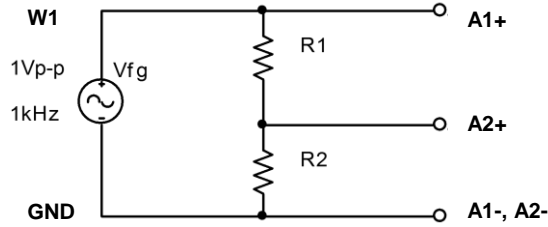

Figure B-6.
- Use the function generator, W1, of the Analog Discovery to put an AC signal on a resistor divider circuit shown in **Figure B-6**. Set the Function Generator to 1kHz and Amplitude to .5 V (since the goal is 1V_{P-P}). Use $R1 = 1k\Omega$ and $R2 = 1k\Omega$. Take data and plot the output using Excel.